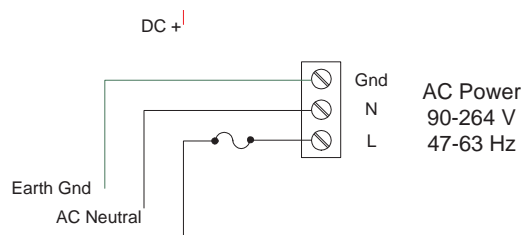

Figure 1. AC Power Connections
- Use three-terminal power connector as shown in Figure 1.